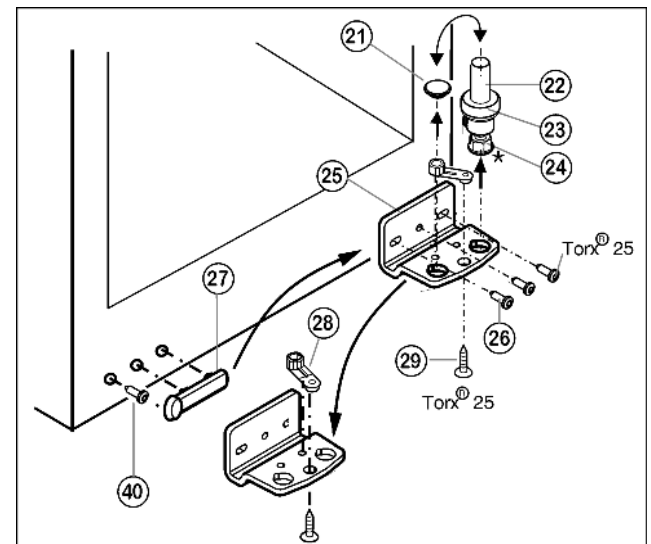

Fig. 5
- Lift out the bearing pin Fig. 5 (22) together with washer Fig. 5 (23) and adjustable-height foot* Fig. 5 (24).
- Lift off the stopper Fig. 5 (21).
- Unscrew Fig. 5 (26) the turn hinge Fig. 5 (25).
- Unscrew Fig. 5 (29) the bearing element Fig. 5 (28), transfer it to the opposite location hole of the turn hinge and screw it firmly into place.
- Carefully lift off the cover on the handle side Fig. 5 (27), undo the screw Fig. 5 (40) and transfer both to the opposite side.
- Screw the turn hinge *Fig. 5 (25)* firmly into place on the new hinge side, possibly using a cordless screwdriver (**with 4 Nm**).
- Re-insert the stopper *Fig. 5 (21)* into the other hole.
- Re-insert the bearing pin *Fig. 5 (22)* together with the washer and adjustable-height foot*. In so doing, pay attention that the locating lug points backwards
- Lift the stopper (33) out of the door bearing bush and transfer it.
- Dismantle the door handle (32), stoppers (33) and pressure plates* (34) and transfer to the opposite side.
- Place the door from above onto the lower bearing pin *Fig. 5 (22)*.
- Insert the upper turn hinge (12) in the door on the new hinge side.
- Screw the upper turn hinge (12) **firmly** into place (**with 4 Nm**)(2x Torx® 25) (13). Possibly make preliminary holes with a bradawl or use a cordless screwdriver.
- Snap the cover (10) and cover (11) into place at the opposite side.
- Align the door to the appliance housing by way of the two oblong holes in the bottom turn hinge *Fig. 5 (25)*. To do so, unscrew the middle screw.